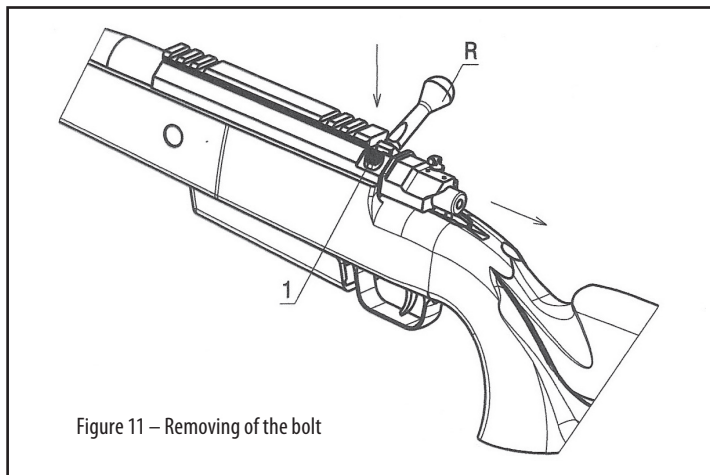

Figure 11 – Removing of the bolt
2. While the bolt is in rear position, push the ejector box (1) downwards with the left hand, figure 11.